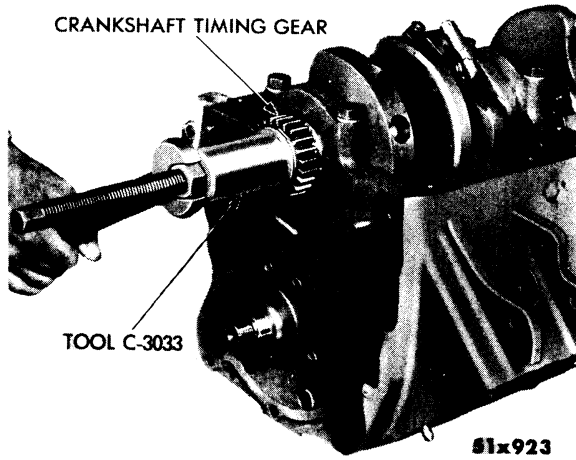

Fig. 103—Installing Crankshaft Timing Gear
- (1) Insert the crankshaft timing gear key in slot and install gear with the timing mark out. Press on shaft, using Tool C-3033, as shown in Figure 103.
- (2) Rotate the crankshaft until the mark on the timing gear is exactly in line with the center of the camshaft. Temporarily install the